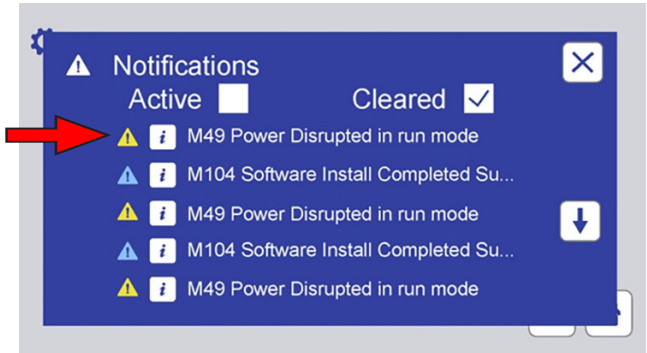

Figure 10.4e: Color coded icons show notification type.
- Color-coded attention icons indicate the type of notification (Figure 10.4e).